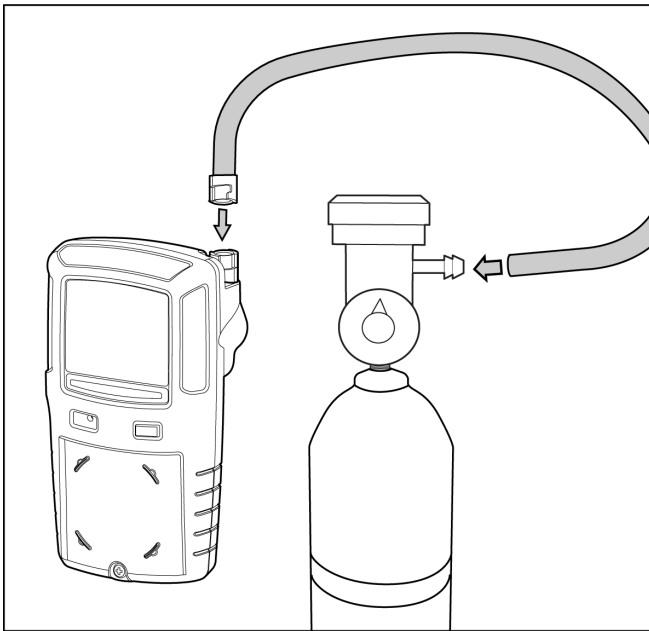

Figure 6. Connecting the Gas Cylinder to the Detector
Refer to the following procedures and Figure 6, to connect the gas cylinder to the detector for calibration.
5. Connect the calibration hose to the regulator on the gas cylinder (Figure 6).